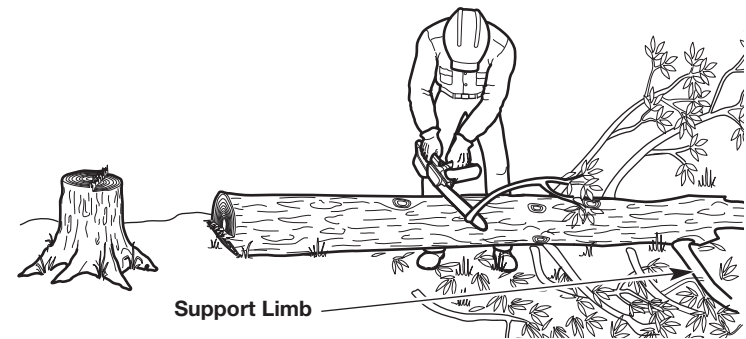

Fig. 16
1. Leave the larger support limbs under the tree for last (Fig. 16). These will keep the tree off the ground during the limbing process.
2. Cut one limb at a time. Stand on the opposite side of the tree from the limb (Fig. 16). Keep the trunk between the operator and the chain saw. To avoid binding the chain saw, branches under tension should be cut from the bottom up.